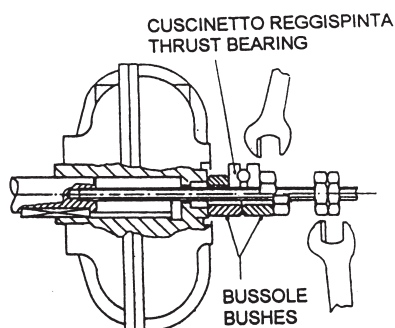

Fig. 3
Non disponendo del cuscinetto reggispinta si possono utilizzare due bussole in materiale con basso coefficiente di attrito (es.: nylon) (Fig. 3).
- The best way of mounting is performed by using a threaded bar through the shaft and a thrust bearing (also through the R device if the coupling is equipped with it). The threaded bar will be screwed at the hole placed at the top of the motor shaft. In case the thrust bearing is not available, it is possible to use two bushes at low coefficient of friction (such as nylon) (Fig. 3).